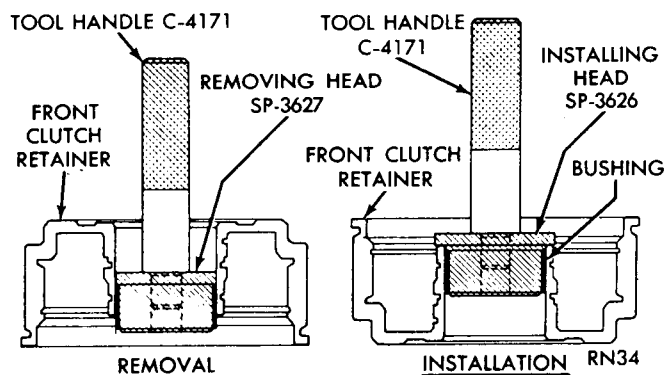

**Fig. 20—Replace Front Clutch Retainer Bushing
(1) Lay clutch retainer (open end down) on a clean, smooth surface and place removing head Tool SP-3627 in the bushing (Fig. 20). Install handle Tool C-4171 in removing head.
(2) Drive bushing straight down and out of clutch retainer bore. Be careful not to cock tool in the bore.
(3) Lay clutch retainer (open end up) on a clean, smooth surface. Slide a new bushing on installing head Tool SP-3626, and start them in clutch retainer bore.
(4) Install handle in installing head. Drive bushing into clutch retainer until tool bottoms.
(5) Thoroughly clean clutch retainer before assembly and installation.